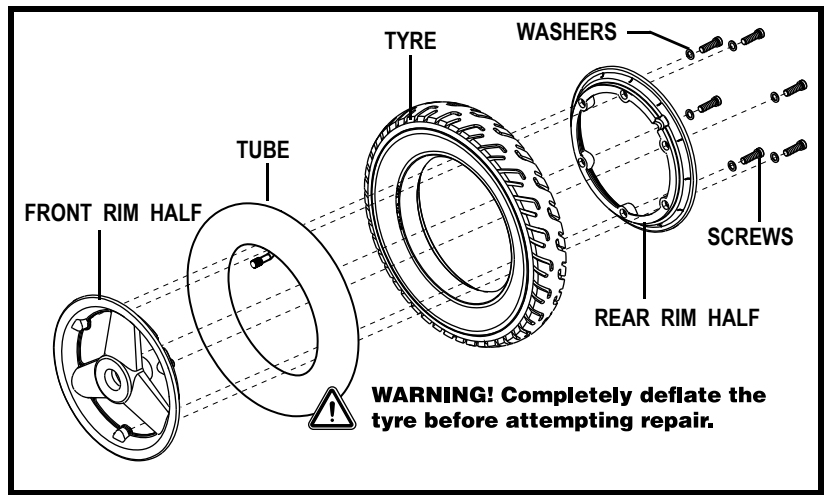

Figure 25. Vogue Drive Wheel Disassembled
6. Remove the screws and washers and separate the front and rear rim. See figure 25.